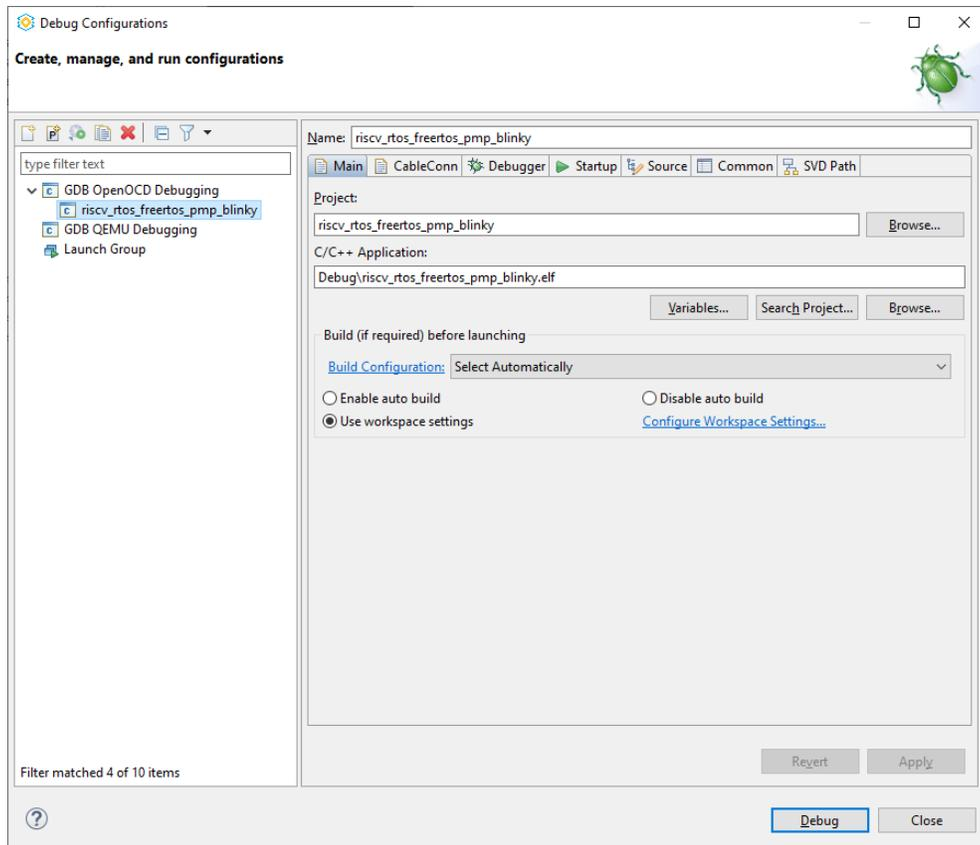

Figure 5.4. Debug Configurations Page
3. Choose `riscv_rtos_freertos_pmp_blinky` in **GDB OpenOCD Debugging** (Figure 5.4).